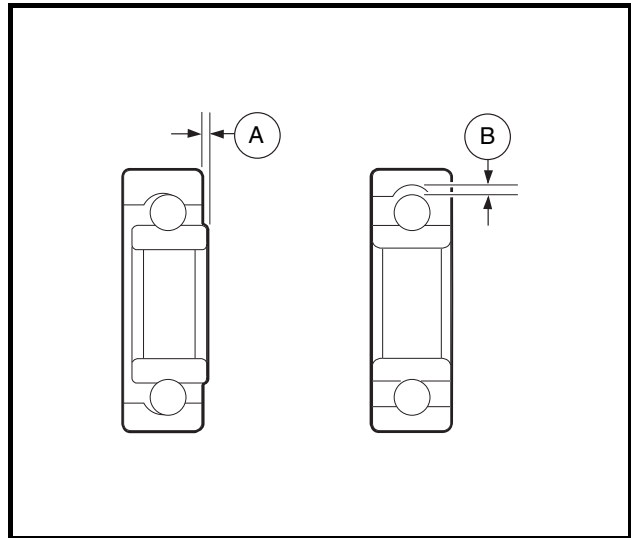

Figure 16-8 Inspect Bearing
1. Use a clean cloth to wipe the carbon dust off of the bearing. Inspect the bearing by spinning it by hand and checking for both axial (A) and radial (B) play (**Figure 16-8, Page 16-7**).